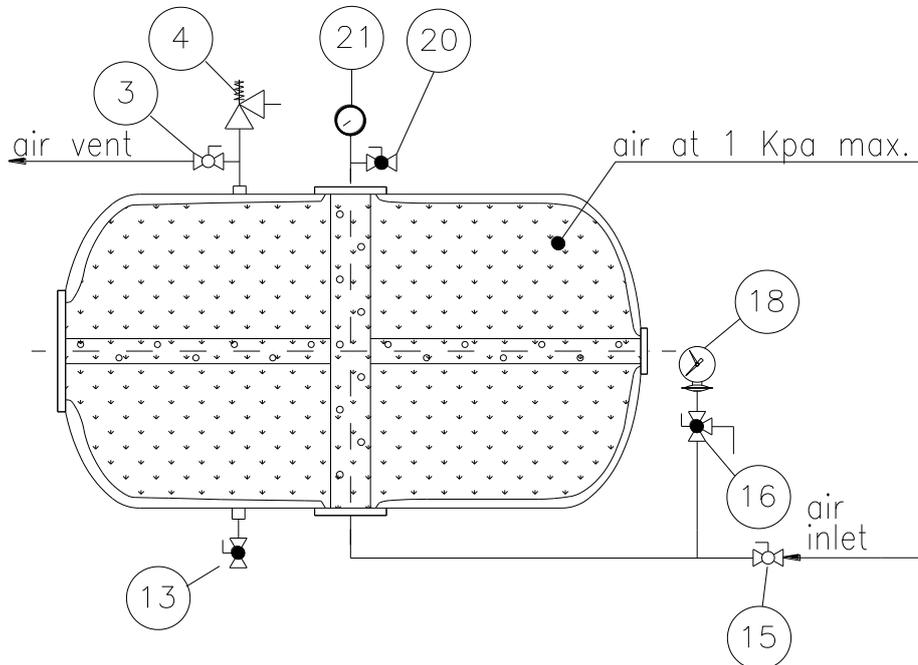

Figure a.4
4. Close the valve (13), and open the valve (15).
5. Connect the air compressor or compressed air plant to the valve (15) and inject air into the tank so as to reach a maximum pressure of 1 kPa (check the pressure by the pressure gauge (21), figure a.4).